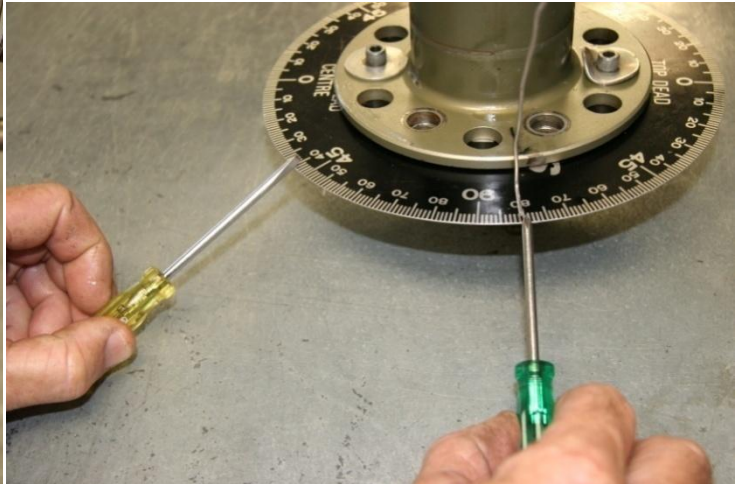

Figure 160 – Checking Cam Timing #1
- For a hydraulic lifter engine – for measurement purposes – fit a hydraulic lifter to the lowermost port of the engine (as shown in Figure 160 – alternatively a special tool such as that shown in Figure 29 can be used).